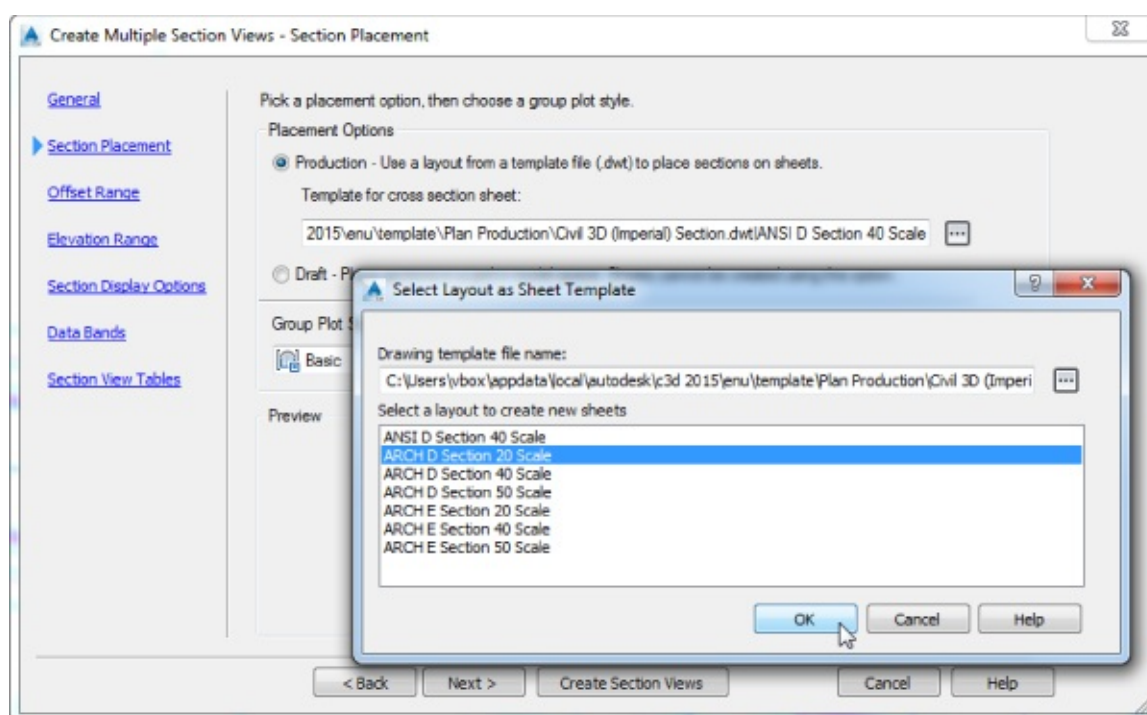

Figure 12.14 When you're creating multiple views, the scale and spacing of the final product depend on layouts from sheet templates.
6. From the default cross section sheet template, select ARCH D Section 20 Scale (ISO A1 Section 1 to 500 for metric users), as shown in Figure 12.14, and click OK.
The Civil 3D default cross section template should be `Civil 3D (Imperial) Section.dwt` or `Civil 3D (Metric) Section.dwt`. Each scale listed in the dialog box (Figure 12.14) relates to a layout tab in the section template file. You can also set up your own templates based on these layouts, but it is important to note that the viewports set for the sections must be assigned that type in the Viewport object AutoCAD properties.
You did not see the Create Multiple Section Views - Section Placement page, shown in Figure 12.14,